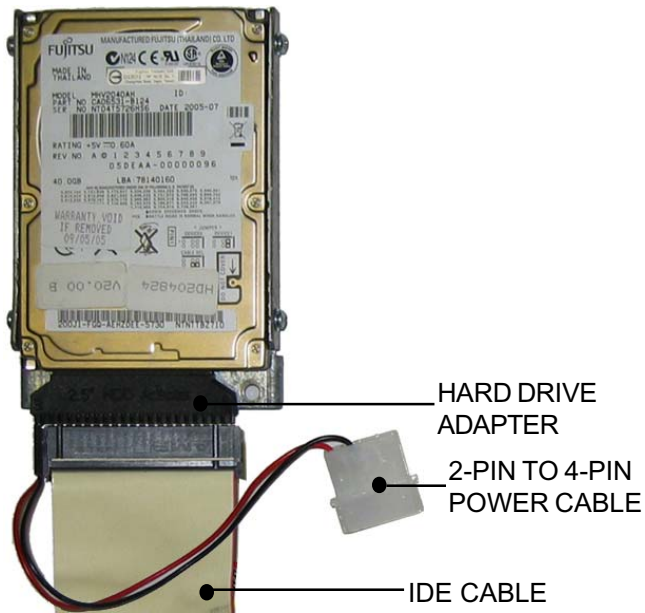
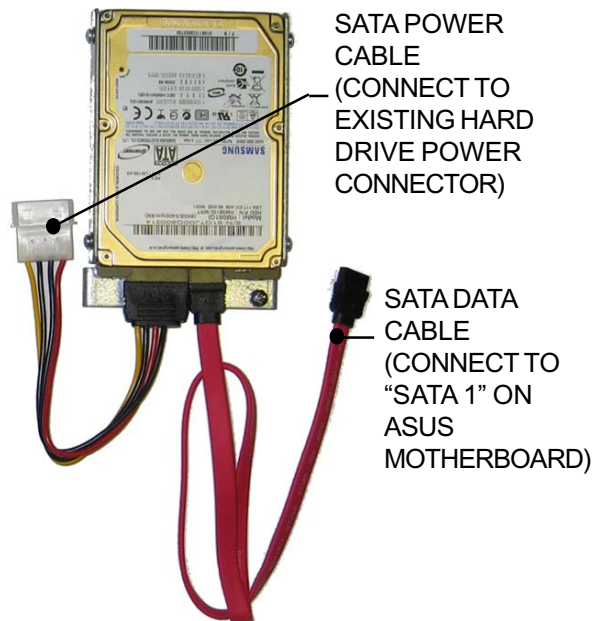
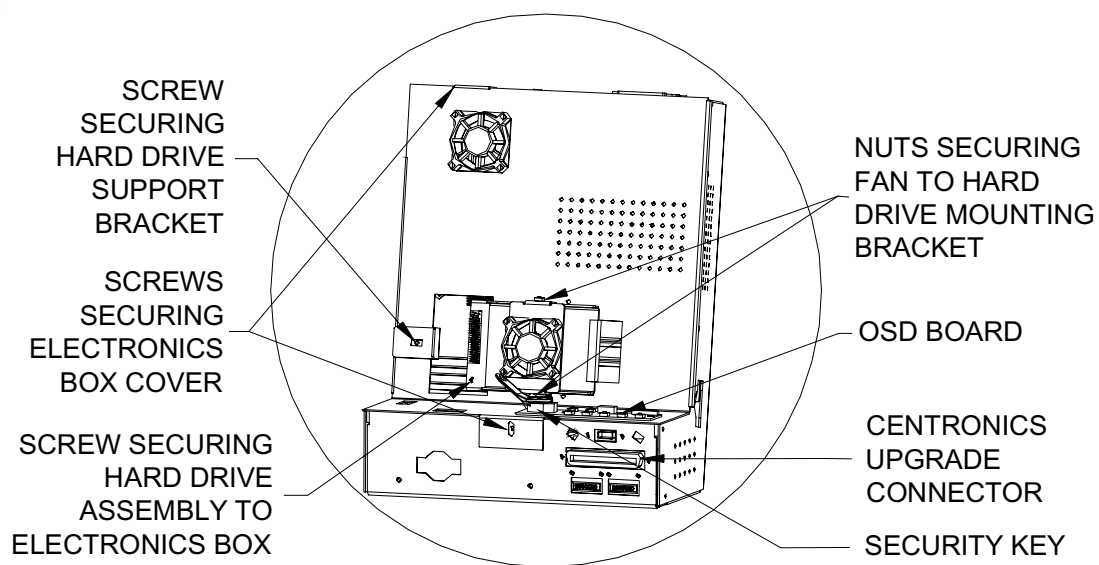
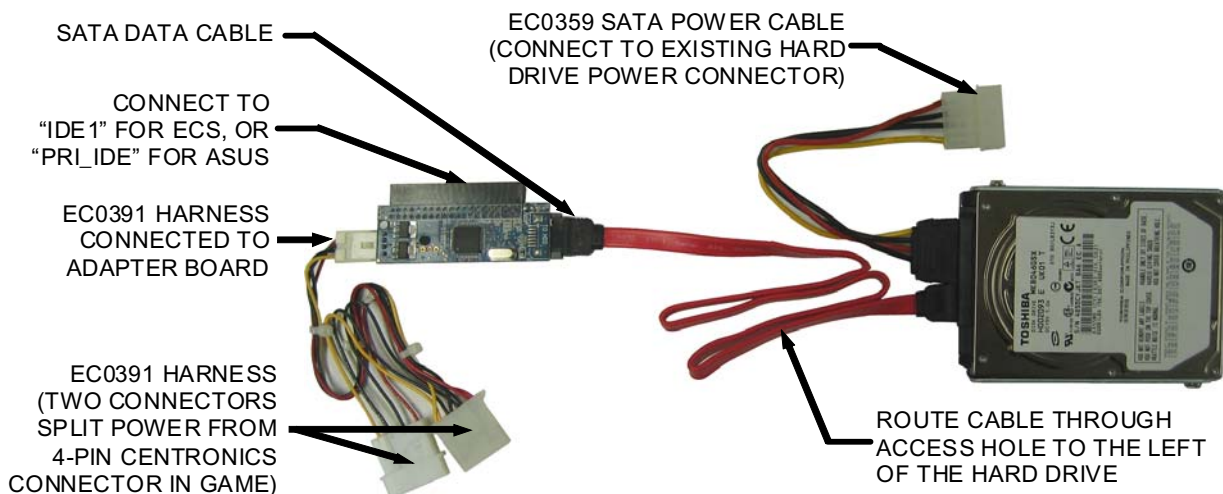

FIGURE 3 - OLD **PATA** HARD DRIVE ASSEMBLY
FIGURE 4 - NEW **SATA** HARD DRIVE ASSEMBLY FOR GAMES WITH **ASUS** MOTHERBOARDS RUNNING 2009.5 SOFTWARE OR LATER
FIGURE 8 - FUSION ELECTRONICS BOX
FIGURE 9 - SATA TO PATA ADAPTER BOARD AND CABLING FOR FUSION GAMES
FIGURE 6 - NEW **SATA** HARD DRIVE ASSEMBLY FOR **FUSION** GAMES WITH **ECS** MOTHERBOARDS AND **FUSION & AURORA** GAMES RUNNING 2009 SOFTWARE OR EARLIER (SEE FIGURES 9 & 11 FOR DETAIL)
6. Disconnect the hard drive adapter (with its attached cabling) from the hard drive (see Figures 3 and 7).
- 8a. Disconnect and remove the hard drive adapter and the 2-pin to 4-pin power cable from the IDE cable, leaving the other end of the IDE cable connected to the motherboard (see Figure 3). The hard drive adapter and 2-pin to 4-pin power cable will not be reused.
- 9a. Disconnect and remove the 2-pin to 4-pin power cable and the IDE cable; they will not be reused (see Figure 3). Connect one end of the provided SATA power cable to this now-free 4-pin connector in the game (see Figure 4).
- 9d. Connect the free end of the SATA power cable to the hard drive as shown in Figure 4. Connect the provided SATA data cable to the hard drive as shown in Figure 4 and connect the other end of this cable to the "SATA 1" header on the motherboard (see Figure 2). Continue with step 10.
4. Using Figures 3 & 6, determine which hard drive assembly you currently have in your game. If you have a SATA hard drive, continue with step 5; if you have a PATA drive, continue with step 6.
5. If you already have a SATA hard drive in your game, disconnect the cabling from the old hard drive. Remove the screw securing the hard drive assembly to the electronics box (see Figure 8) and slide the hard drive assembly off of the box. Detach the fan assembly from the old hard drive by removing the one or two nuts (see Figure 8). Reattach the fan assembly to the new hard drive with the same nut(s). Slide the new drive onto the electronics box cover, and secure it with the same screw that secured the old drive. Connect the existing cabling to the new drive. Continue with step 11.
6. Remove the screw securing the hard drive support bracket (this bracket and screw will not be reused). See Figure 8. Then, disconnect the hard drive adapter (with its attached cabling) from the hard drive (see Figure 3). Remove the screw securing the hard drive assembly to the electronics box (see Figure 8) and remove the hard drive assembly. Route the hard drive cabling into the electronics box through the access hole to the left of the now-absent hard drive.
7. To remove the electronics box cover, disconnect the two or three fan connections on the face of the electronics box. Also, disconnect the two OSD board connections and route the wires back into the electronics box through the access hole to the right of the hard drive (see Figure 8). Remove the two screws securing the electronics box cover and carefully remove the cover (see Figure 8).
- 9a. Disconnect the 4-pin power cable (currently attached to the IDE cable) from its connection inside the electronics box and connect this 4-pin connector to the provided EC0359 SATA power cable. See Figure 9.
- 9b. Connect the provided EC0391-01 harness and the SATA data cable to the provided adapter board as shown in Figure 9.
- 9d. Locate the 4-pin connection coming from the Centronics upgrade connector inside the electronics box (see Figure 8). Disconnect this 4-pin connection and connect each of the mating connectors on the EC0391 harness to these two 4-pin connectors (see Figure 9). Hold the electronics box cover up to the electronics box and route the free end of the SATA data cable and the EC0359 harness through the access hole in the electronics box cover to the left of the absent hard drive (see Figure 8). Route the two OSD board connectors through the access hole to the right of the absent hard drive.
- 9f. Connect the free ends of the EC0359 (SATA power cable) and the SATA data cable to the new hard drive as shown in Figure 9.
- 9h. Replace the cover on the electronics box and secure it with the two screws. Reconnect the two or three fan connections you removed. Reconnect the two OSD board connections (see Figure 8). Continue with step 11.
- 10c. Separate the CPU fan mounting plate from the hard drive mounting bracket by removing the one or two nuts (see Figure 8). Reattach the CPU fan mounting plate to the provided hard drive assembly with the nut(s).
- 10f. Replace the cover on the electronics box and secure it with the two screws. Reconnect the two or three fan connections that you removed. Reconnect the two OSD board connections. See Figure 8.
11. If you are installing a security key, locate the key (the button-shaped disc with the handle) on the OSD board (see Figure 8). Remove the existing security key from the OSD board by sliding it out of place, and replace it with the supplied security key.